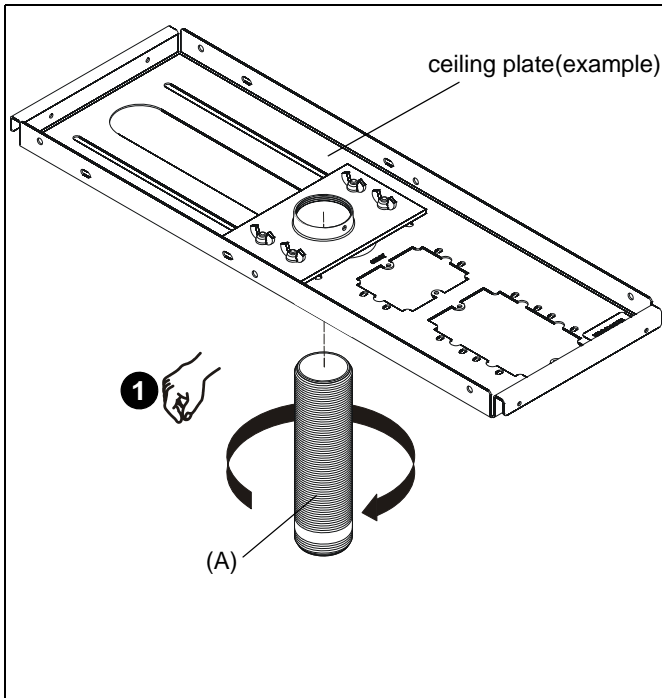

Figure 1
1. Install 6" fully threaded column extension (A) into plate/adapter to desired position. Ensure column (A) engages at least five full threads into plate adapter. (See Figure 1)
2. Secure column (A) to plate/adapter by tightening set screw in plate/adapter (See Figure 1).